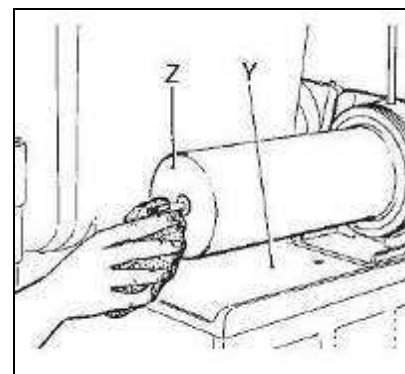

Fig. 19
- Thoroughly wash the evaporator and the drip tray surfaces with a sponge soaked with the sanitizer (see fig.19), leave at least 1-2 minutes and let it dry, do not rinse.